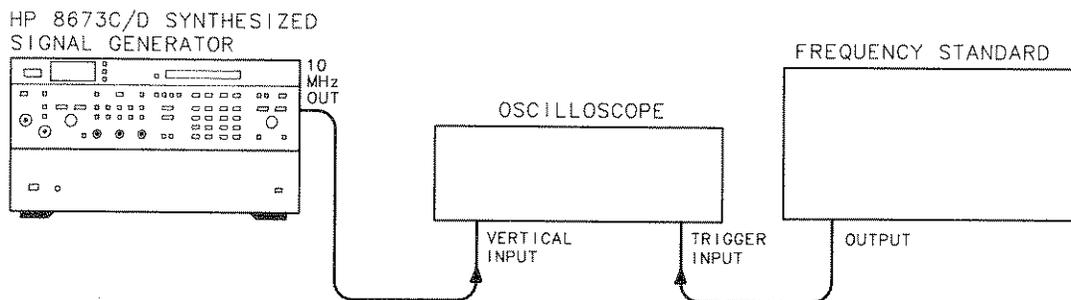

Figure 4-11. Internal Time Base Aging Rate Test Setup
1. Connect the equipment as shown in Figure 4-11.